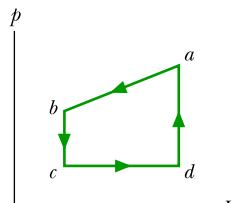

Figure 18.19 Problem 49.
**49 M GO** Figure 18.19 represents a closed cycle for a gas (the figure is not drawn to scale). The change in the internal energy of the gas as it moves from *a* to *c* along the path *abc* is  $-200 \text{ J}$ . As it moves from *c* to *d*,  $180 \text{ J}$  must be transferred to it as heat. An additional transfer of  $80 \text{ J}$  to it as heat is needed as it moves from *d* to *a*. How much work is done on the gas as it moves from *c* to *d*?